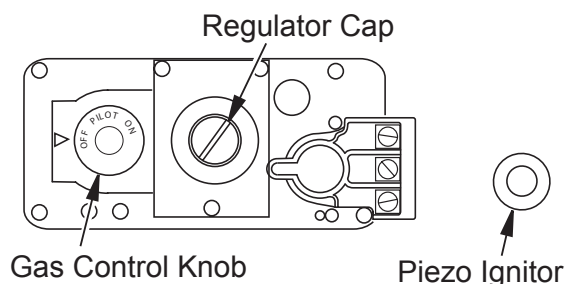

Figure 30 - Control Valve Millivolt
4. Push in gas control knob slightly and turn clockwise  to OFF (see Figure 30).
5. Wait five (5) minutes to clear out any gas. Then smell for gas, including near the floor. If you smell gas, STOP! Follow "B" in the safety information above. If you don't smell gas go to the next step.
8. Push in gas control knob all the way and hold. Immediately light the pilot by repeatedly pressing the piezo ignitor until a flame appears. Continue to hold for about one (1) minute after the pilot is lit. Release gas control knob and it will pop up. Pilot should remain lit. If it goes out, repeat steps 5 through 8.